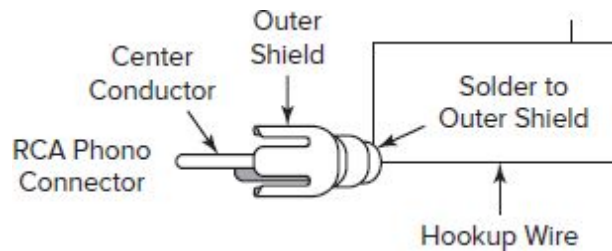

Fig. 8-4 Building a short to key the transmitter.
3. Build a shorting key as shown in Fig. 8-4. This transmitter is designed to be turned off and on by a telegraph key. The key is nothing more than just a convenient hand-operated switch. For this project, you can just use a shorted RCA phono plug. Just solder a short piece of hookup wire between the tip and shell of a phono plug. Plug the short into the KEY jack on the transmitter at the appropriate time.